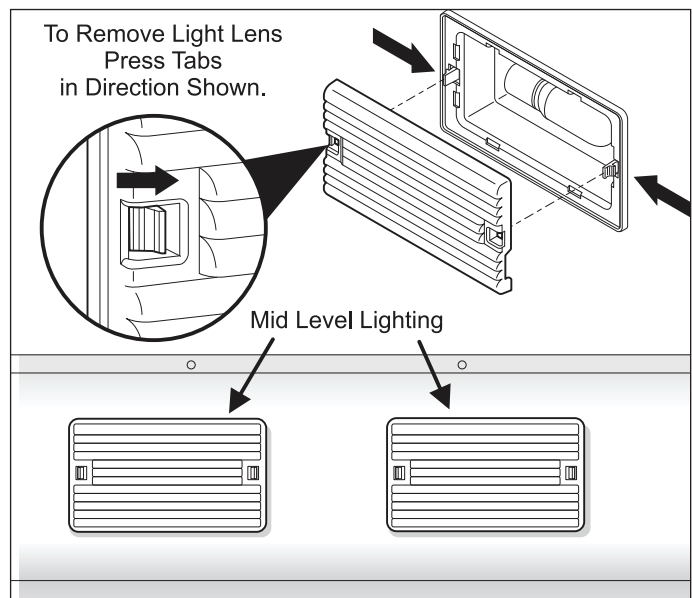

Figure 6-20. Mid Level Lighting Removal
4. Remove evaporator cover or remove screws and pull away top of cover enough to access components mounted to rear of cover, then disconnect the wire leads from the light fixture terminals. (See Figure 6-20)